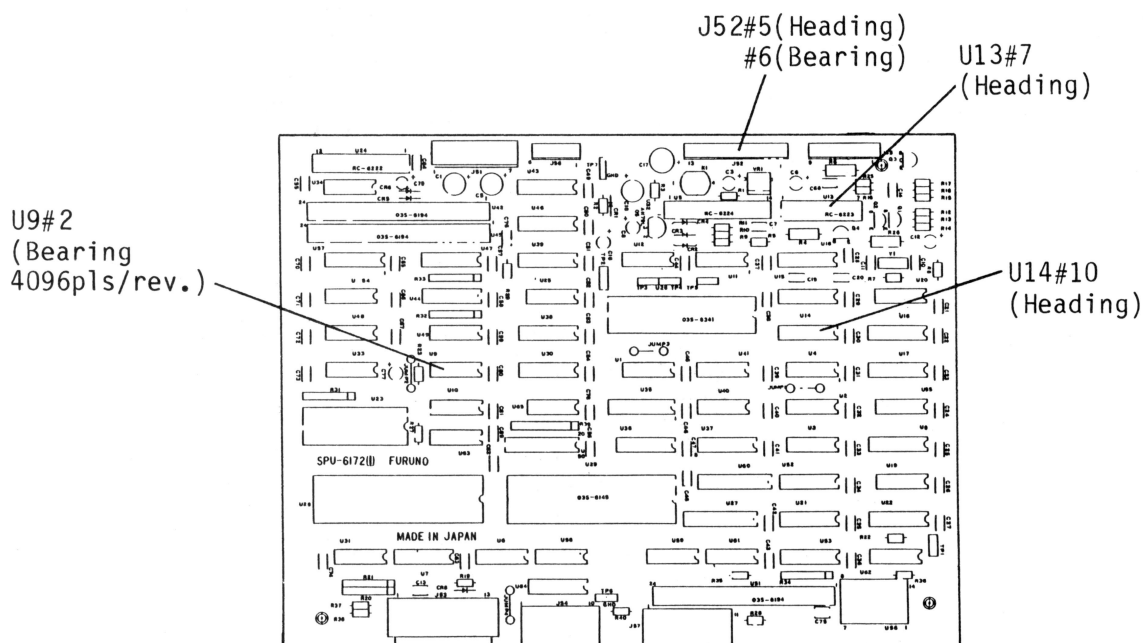
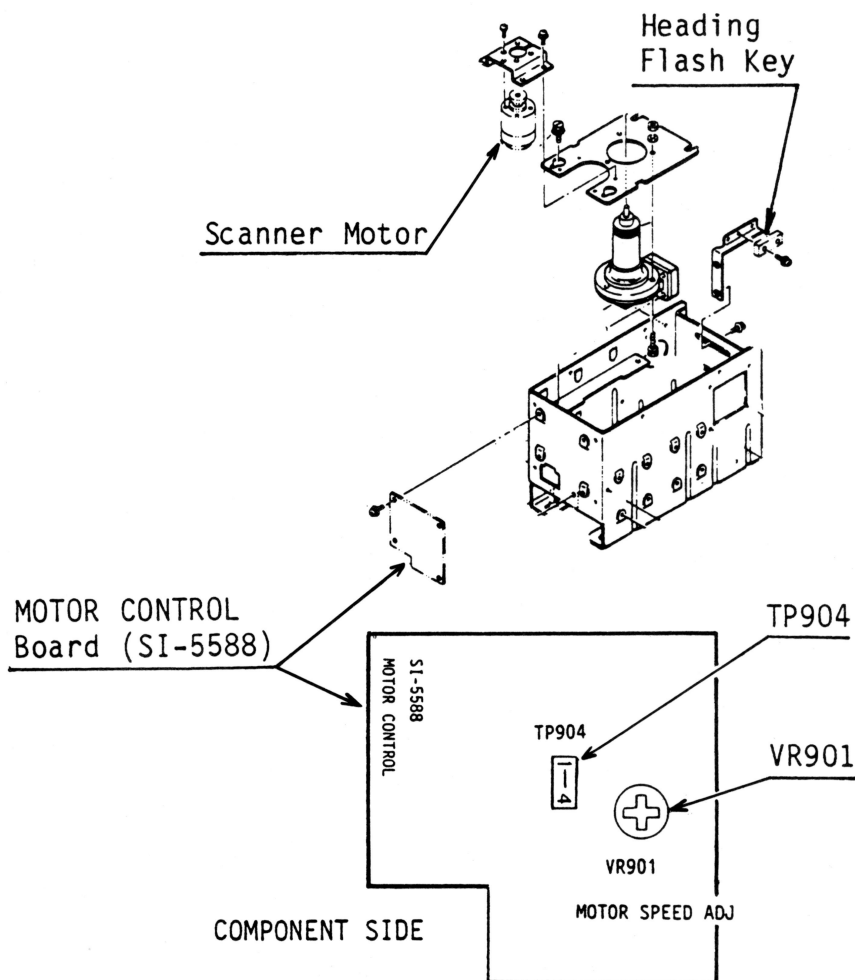

Fig.4-22 PROCESSOR Board (SPU-6172) solder side
Fig 4-23
Check/Remedy: 1) To check the heading flash key, connect a multimeter, set at 10Vdc, between pin #5 of J52 on the PROCESSOR board and the ground. See Fig.4-22. In normal operation, the meter swings from +5V to 0V when the antenna radiator faces dead ahead. If the meter indication stays at +5V or 0V, the heading flash key (Fig.4-23) may be faulty or connection between the scanner and display units is cut off.
- 2) To check the bearing signal, connect an oscilloscope between pin #6 of J52 and the ground. See Fig.4-22. If 450 pulses/rotation (180Hz) are not obtained at pin#6, check the scanner motor speed on the MOTOR CONTROL board as following rate. See Fig.4-23 for the locations of check point and adjuster.
- 4) Check the heading pulse at pin #7 of U13 on the PROCESSOR board. If it is not obtained, U13 may be faulty. See Fig.4-22.